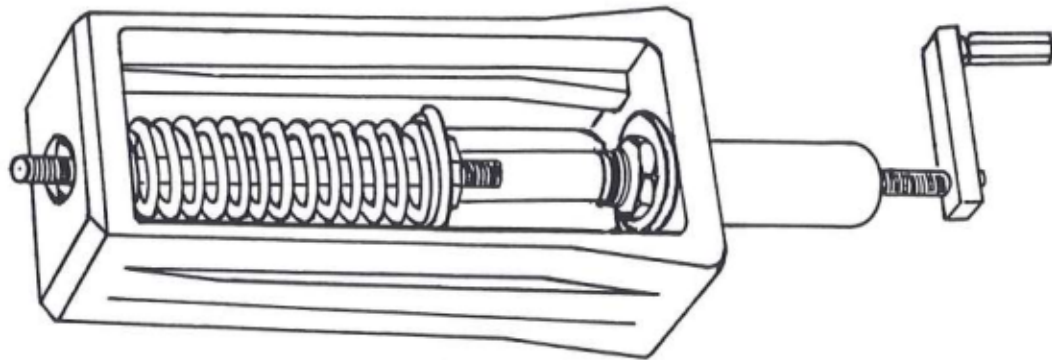

Figure 6-16. "Dummy" Yoke and Spring Assembly
- 2). Place this spring assembly into a "dummy" yoke (P/N S109795U) so that the jam nut and shaft extend through the top of the yoke (see Figure 6-16).